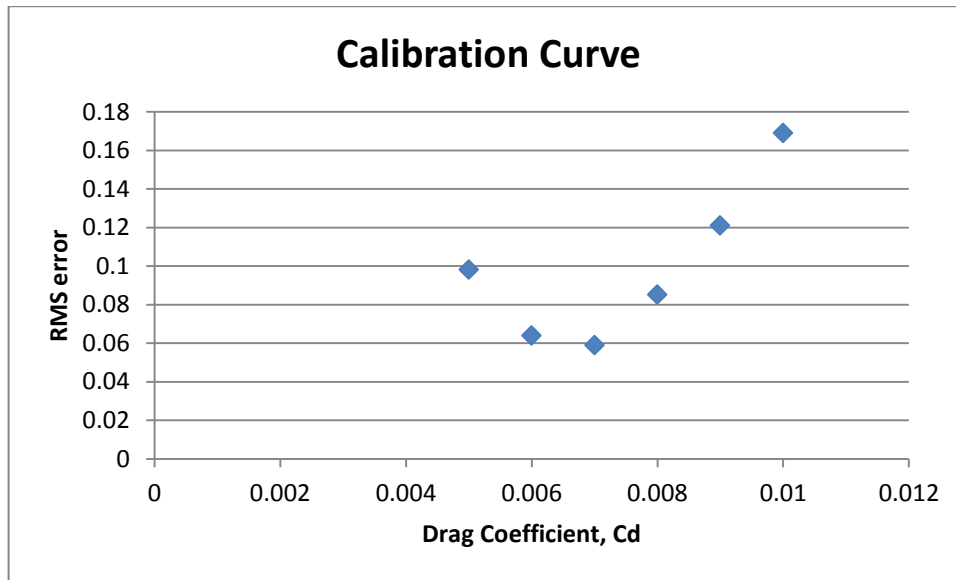

Figure 24. Calibration curve showing the relationship between roughness and the RMS error for the simulated water-surface elevations.
- Another way to look at these results is to plot a calibration curve which shows the roughness value on the x-axis and the RMS error on the y-axis (Figure 24). This curve indicates how sensitive the simulated water-surface elevation is to the roughness value. Additional simulations could further determine the drag coefficient that gives the lowest error between measured and predicted water-surface elevations.